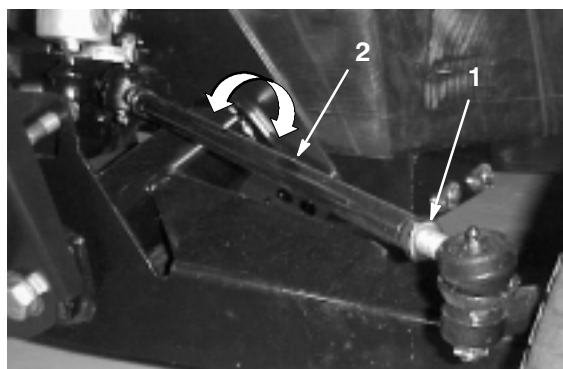

Figure 36
2. To adjust, loosen jam nuts at both ends of tie rods (Fig. 36).